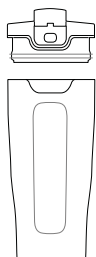

Figure 1
2. Secure the Cup Lid onto the Cup by aligning the notch in the Cup to the tab on the Cup Lid (Figure 1).